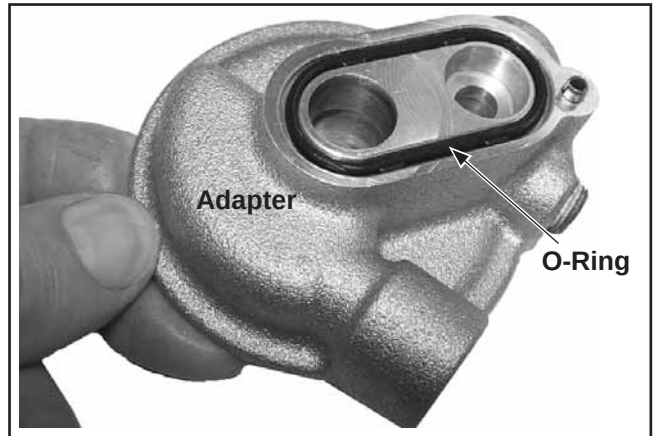

Figure 10-22. Oil Filter Adapter and O-Ring.
4. Apply a small amount of grease and install a new O-Ring into the groove of the adapter for oil filter or oil cooler. See Figure 10-22.